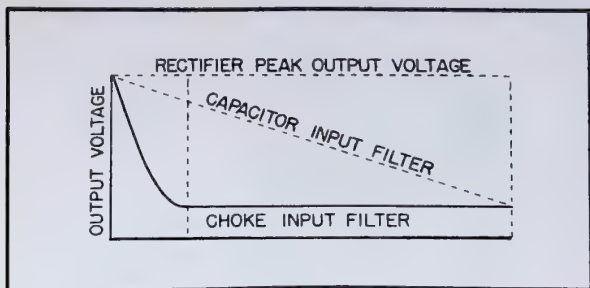

Fig. 10-30. Capacitor input filter performance.
**Capacitor Input Filter.** A capacitor input filter with no load produces a terminal voltage almost equal to the peak of the applied AC voltage. As the load increases, the terminal voltage drops because the current draw by the load prevents the capacitor from retaining its charge. This type of filter is undesirable for applications that require a large current, because the peak current that must flow in the diodes to charge the input capacitor may damage the diodes. Since the output voltage falls as the output current is increased, this type of filter has relatively poor regulation, as shown in Fig. 10-30. It may be used, however, where the load is light or very constant.
**Choke Input Filter.** The regulation of choke input filters may be better understood by considering a specific type of filter—the L-type. At no load, the output voltage of the choke input filter is nearly equal to the peak voltage of the applied AC, as with the capacitor input filter (see Fig. 10-30). This high voltage can be obtained because, with no load current being drawn, the capacitor can be charged to the peak voltage. However, if only a small load current is drawn, the output voltage falls sharply to some lower value. As the load current increases beyond the value indicated by point A in the illustration, there is very little change in voltage except that which takes place in the DC resistance of the choke coil. Since the voltage at the output of a choke input filter changes very little over a wide range of load, a choke input filter has good regulation.